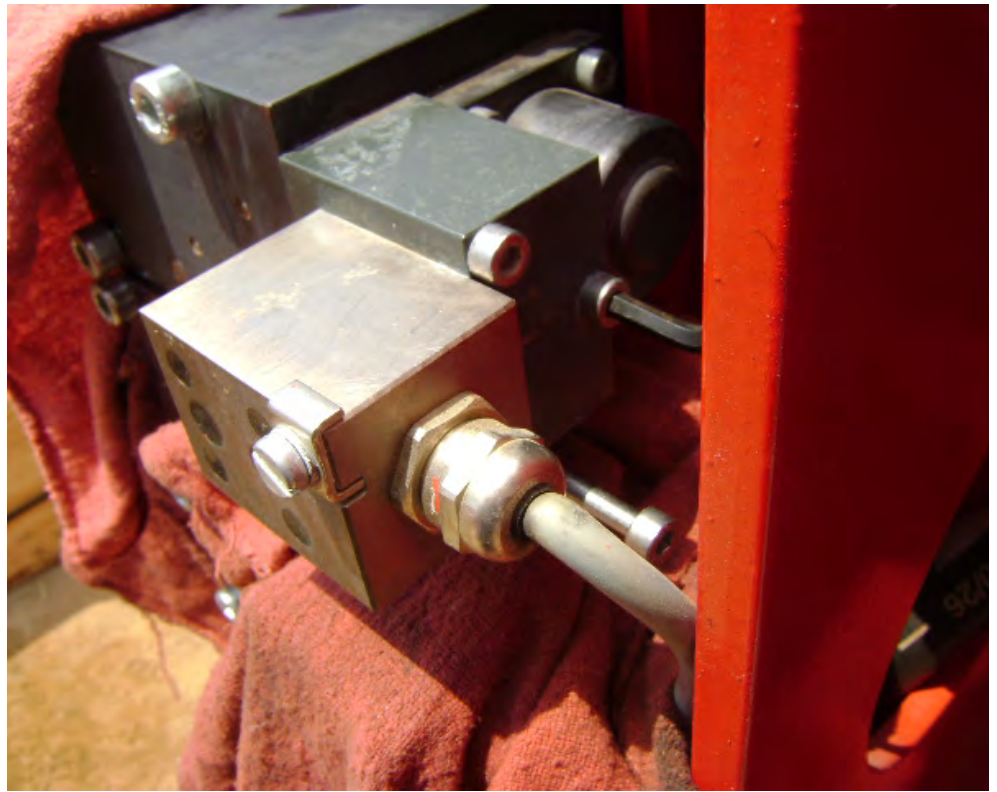

Figure 9
10. Remove the three 4mm x 60mm socket head screws securing the coil to the valve body (Figure 9).